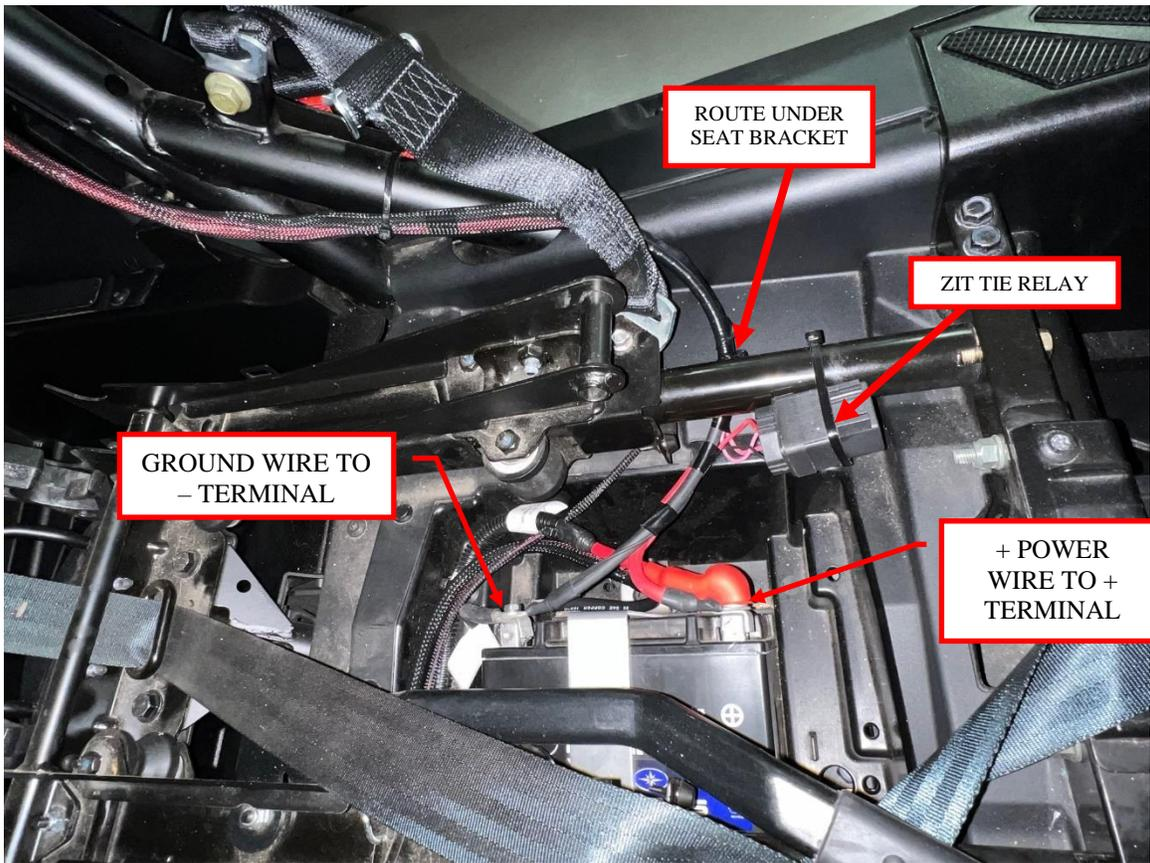

Figure 10: Connect the Audio Shade harness to the battery.
9. Route the chassis harness under the seat bracket. Connect the red power wire to the positive terminal of the battery. Connect the black ground wire to the negative terminal of the battery. Zip tie the relay to the inside of the seat bracket as shown. Add additional zip ties to secure the chassis harness to the lower half of the cage B pillar (below the door). See Figure 10.